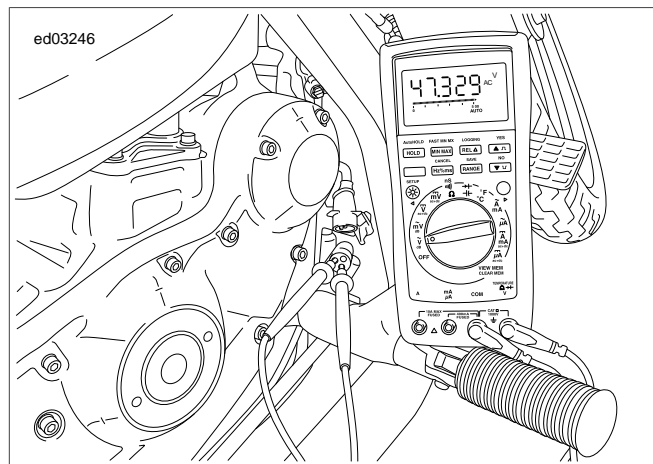

Figure 3-14. Check Stator AC Voltage Output (Typical)
1. See Figure 3-14. Test AC output.